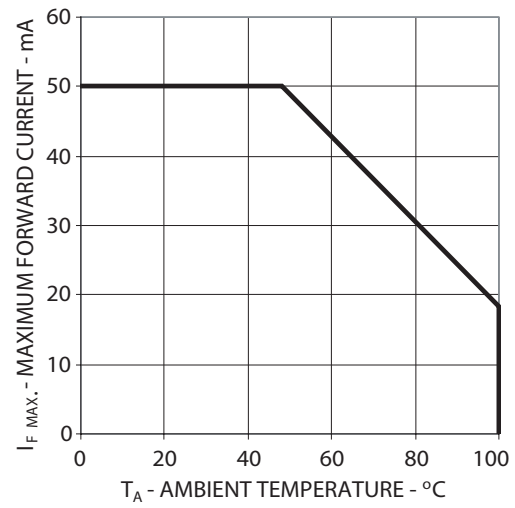
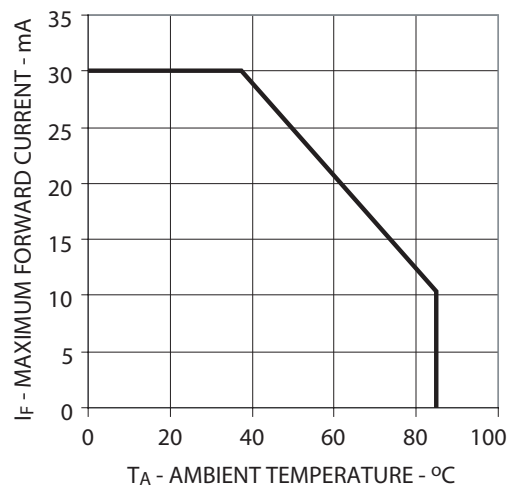

Figure 2. Maximum Forward Current vs Ambient Temperature
Figure 8. Maximum Forward Current vs Ambient Temperature
1. Derate linearly as shown in Figure 2 and Figure 8